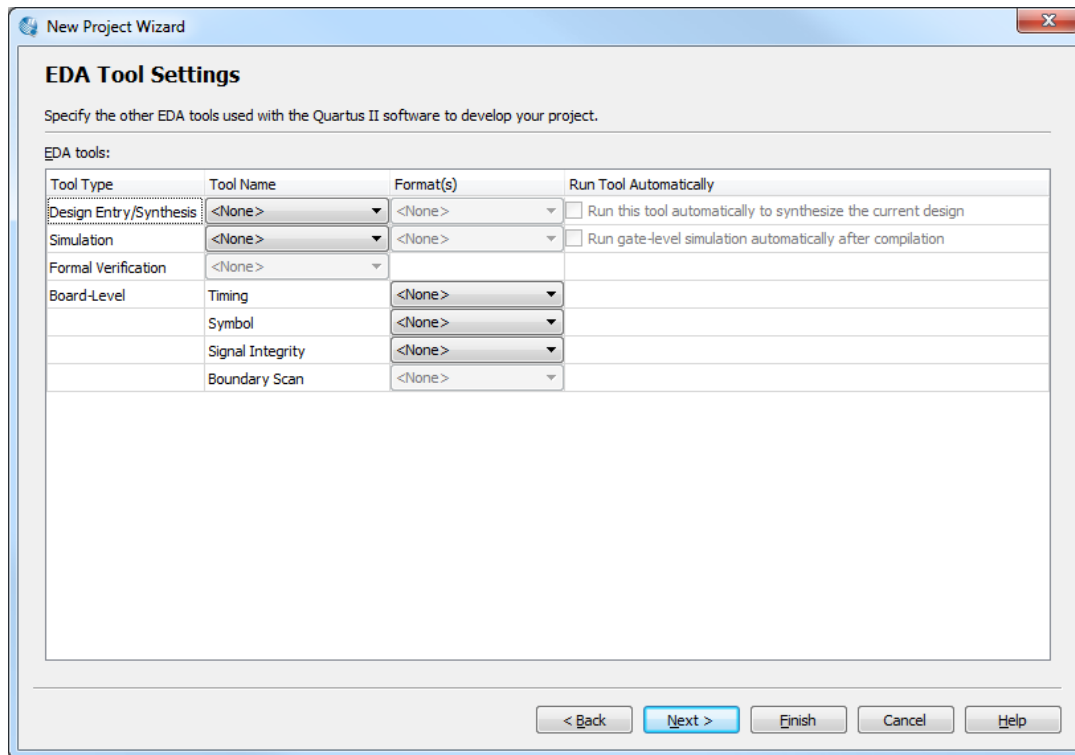

Figure 9. Other EDA tools can be specified.
6. We have to specify the type of device in which the designed circuit will be implemented. We can let Quartus II software select a specific device in the family, or we can choose the device explicitly. We will take the latter approach. Type in the device name 5CEBA4F23C7N in the Name Filter field of Figure 8. Press **Next**, which opens the window in Figure 9.